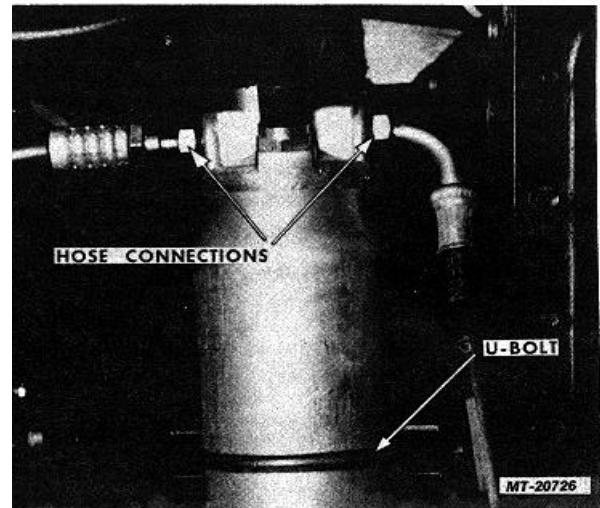

Fig. 50 Filter-Dehydrator Mounting
- Loosen U-bolt and remove filter-dehydrator from mounting bracket (Fig. 50).